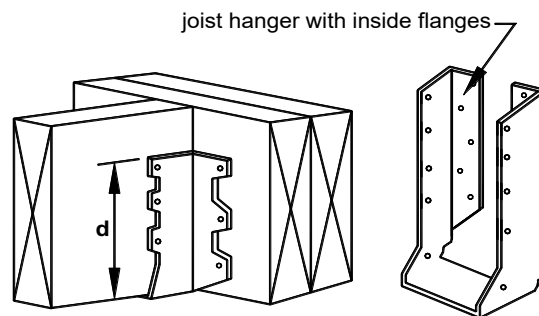

FIGURE 8: JOIST HANGERS
- Joist hanger depth ( $d$ , as shown in FIGURE 8) shall be greater than or equal to 60 percent of the joist depth.